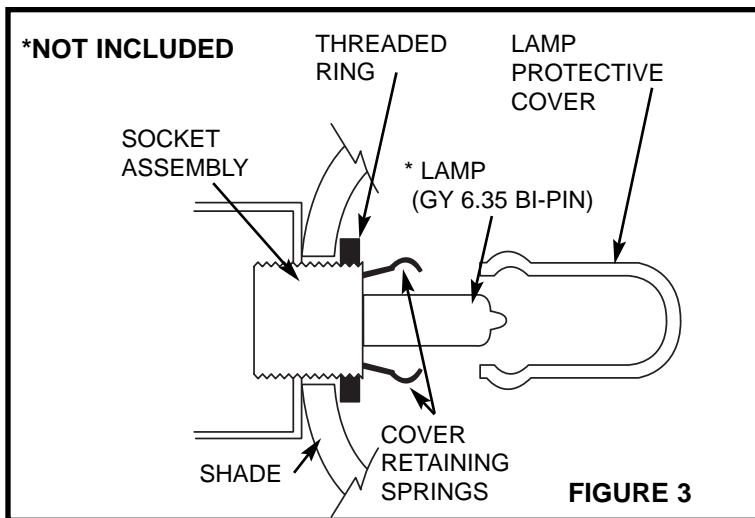
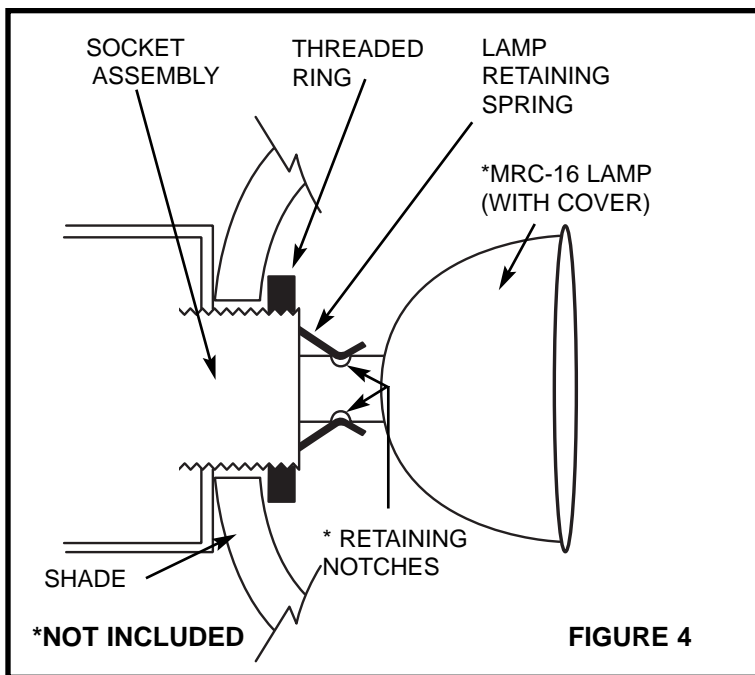

FIGURE 3
FIGURE 4
On socket assembly (Fig.3 and Fig.4) install, shade, and finger tighten threaded ring until shade is secure.
**TO INSTALL LAMP:** If using GY 6.35 Bi-Pin Halogen lamp (Fig.3), insert lamp into socket and install lamp protective cover over cover retaining springs. If using MR-16 type Halogen lamp (Fig.4), discard lamp protective cover and install lamp into socket making sure the lamp retaining spring snaps into the lamp's retaining notches located at the base of the lamp.